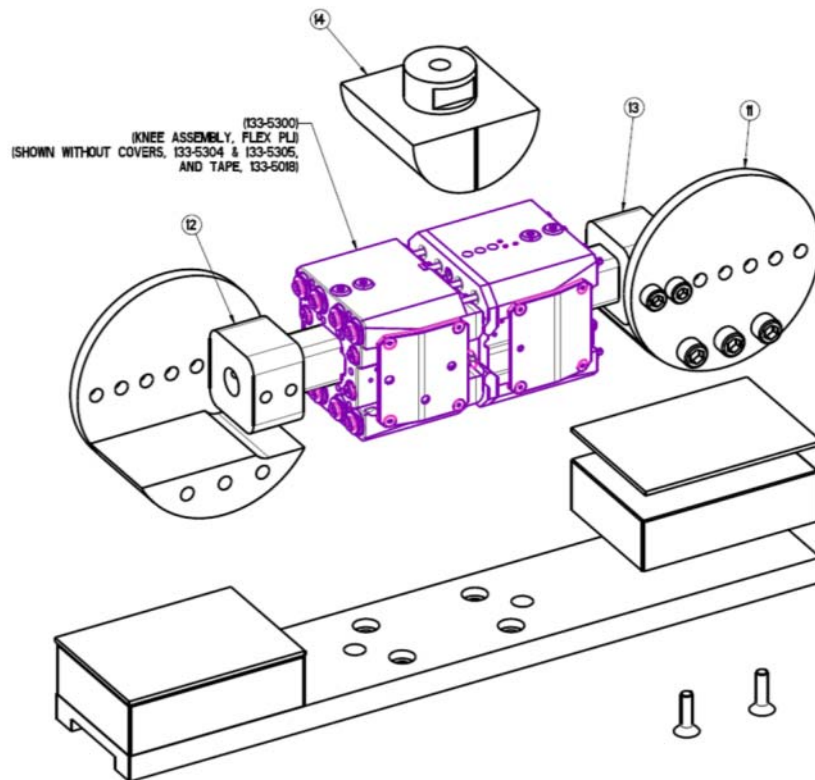
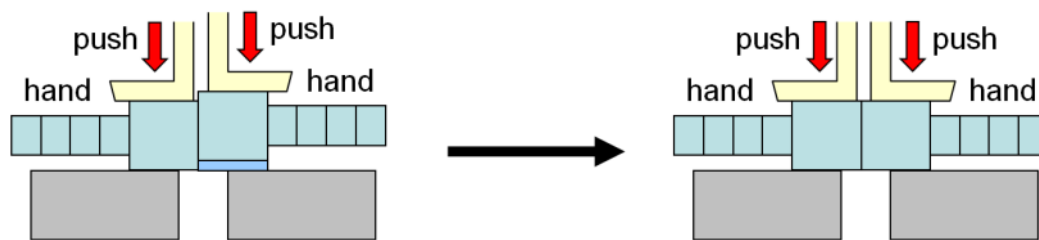

Figure 80 . Static certification fixture 133-8120 showing knee
Figure 91 . Recommended method to align knee to remove any twist and shear
This operation requires the use of a materials testing machine with high definition load cell and some parts from calibration fixture 133-8120 see Figure 80. Temperature for this test must be between $20 \pm 2^{\circ}\text{C}$. Locate the femur insert into the femur knee block, the femur insert is 3mm longer than the tibia insert so it is important the correct insert is in the correct knee block or results will be wrong. Fit 2x M8 x 35 BHCS and tighten, then fit the 2x M8 x 30 set screws on the opposite side and torque all screws to 8 Nm. Follow the same procedure for the tibia insert. Assemble the fixture as shown ensuring the impact side is on the top and the two blue plastic covers have been removed along with the accelerometer if fitted and double sided tape. It is important to check that the two knee blocks are aligned before starting the test to remove any shear or twist in the assembly. A procedure like that used in figure 91 can be used and double checked with a straight edge.
The testing machine must be fitted with $\varnothing 100\text{mm}$ 'D' shaped profile part 133-8105, see Figure 80. The center of the profile must be aligned with the top of the meniscus; a line is marked on the loading profile for this visual alignment. Plug string pots into recording equipment. A piece of Neoprene minimum size $85 \times 50 \times 5\text{mm}$ thick is placed over the loading point to prevent damage to the knee. The 85 mm dimension is the knee width dimension. This Neoprene is the same material used in the covers. The loading profile is brought down to contact the Neoprene at the zero load point. Then the test loading is started.
Step 5: Check knee blocks are aligned to ensure knee is not twisted or in a shear condition before the test. Using two equal height blocks push down on the back of the knee for y direction and also on one side of the knee for x direction as shown in Figure 91. A straight edge can be used to double check alignment after any adjustment on two sides.
Step 5: Check knee blocks are aligned to ensure knee is not twisted or in a shear condition before the test. Using two equal height blocks push down on the back of the knee for y direction and also on one side of the knee for x direction as shown in Figure 91. A straight edge can be used to double check alignment after any adjustment.